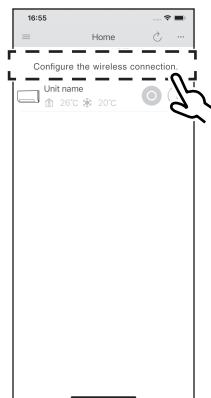

Fig. 2
2. Open the DAIKIN Mobile Controller application and select "Configure the wireless connection" (Fig. 2) and connect to your home network as per the on-screen instructions.